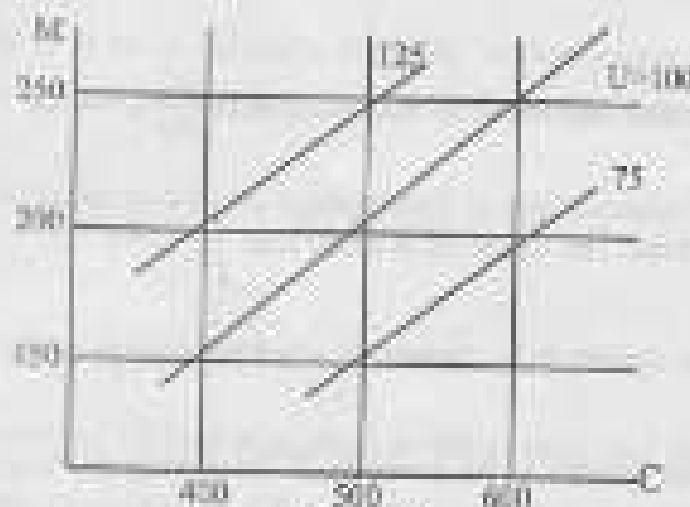

Fig 3(a)
- Q3) a) The steady - state operating curves for a system to be controlled are shown in Fig 3(a). The reference operating condition is  $V=C_1=500$ ,  $U=100$  and  $M=200$ . Determine the slope of the controller lines such that the controlled variable does not decrease by more than 4 percent of its reference value ( $C = 0.04 \times 500 = 20$ ) when  $U = 125$ . [8]
- b) Reduce the given block diagram shown in Fig 3(b) and then obtain the transfer function of the system if  $G_1=G_2=1$ ,  $G_3=G_4=2$  and  $H_1=H_2=1$ . [8]